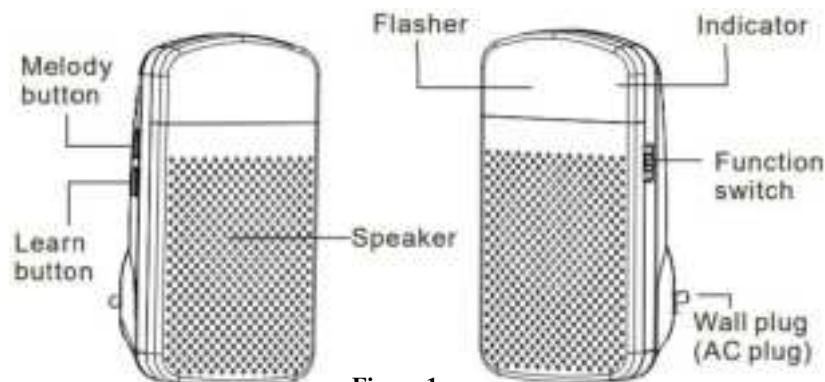

Figure 1
- The LRA-DCRXS-L has three operational modes: strobe only, sound only, and strobe + sound (see Figure 1).
- Assign one (1) of eighteen (18) available melodies to each transmitter.
- The LRA-DCRXS-L has two zones. Each transmitter will occupy a zone. Once two (2) transmitters have been paired to a receiver, you cannot add one unless you delete the existing transmitters from memory.
During regular operation, if you notice the red LED under the strobe lens (see “flasher in Figure 1) tends to stay on after the strobe flashes, this indicates you need to change the battery in a transmitter programmed to the receiver.
The push button may already be programmed to the receiver. Ensure the battery is installed and the receiver is plugged in—test by pushing the push button. Ensure the function switch (see Figure 1) is set to sound mode for programming and plugged into a wall outlet
2. Press on hold the • learn button (see Figure 1) for three seconds. A red LED light will blink, indicating the receiver is in pairing mode (see important notes above). Release the button once you notice the red LED.
3. Press & release the 🎵 melody selector button (see Figure 1) to scroll through available melodies. Stop pushing this button when you hear the sound you want the receiver to play when the push button is pressed.